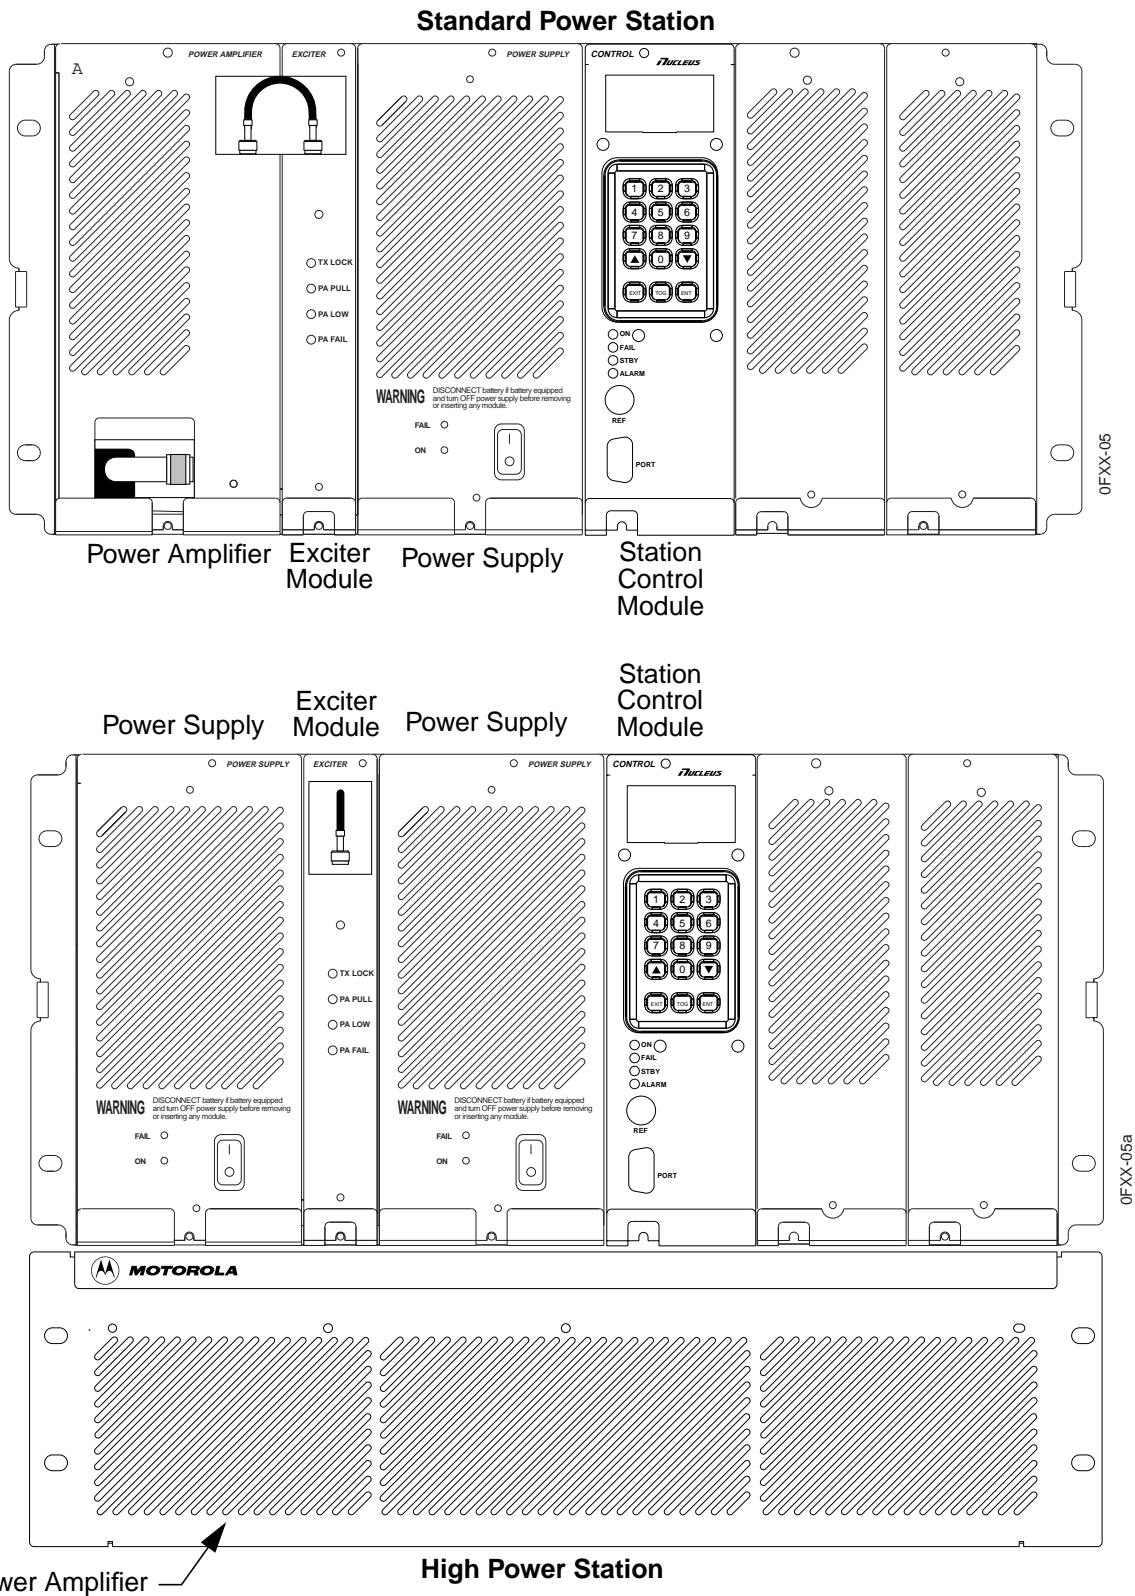
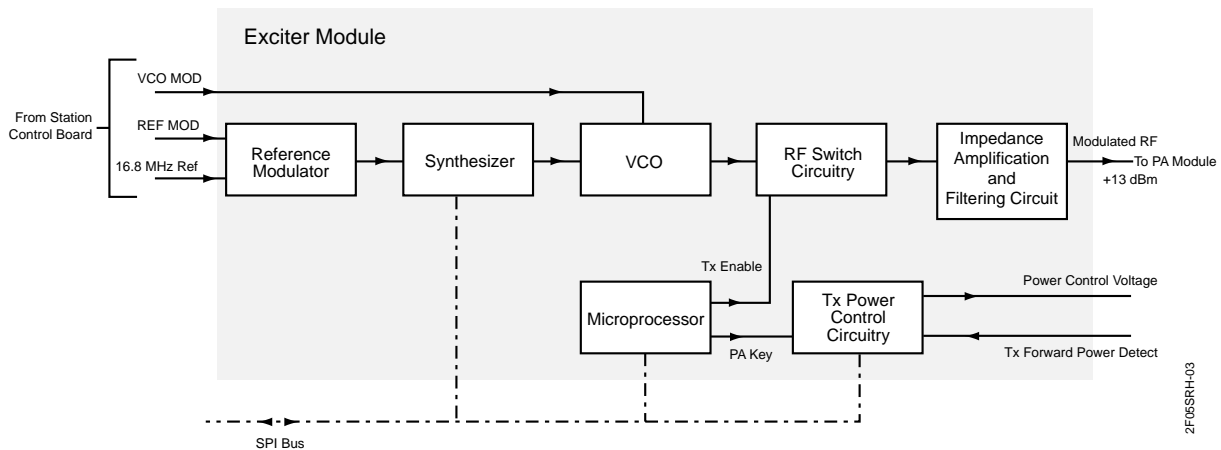
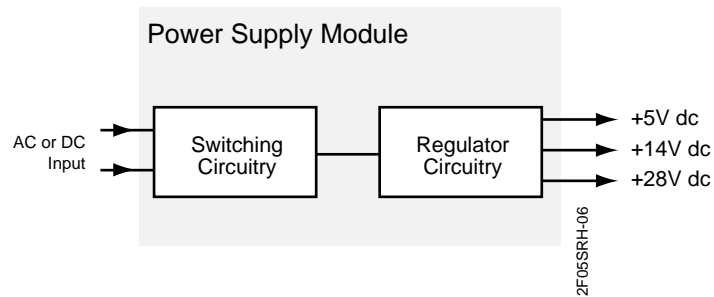

Figure 2-1: Nucleus Paging Station
Figure 2-5: Exciter Module Process Flow
Figure 2-8: Power Supply Module
A Nucleus paging station consists of the following elements (see Figure 2-1):
The Exciter (see Figure 2-1 for location) generates modulated RF messaging signals at the appropriate messaging frequency and sends the messaging signals to the PA. To do this, the Exciter mixes the messaging data with the carrier frequency (see Figure 2-5). The Exciter is frequency-specific for the transmitter.
- Standard power Nucleus paging station (100 to 125 W), (see Figure 2-1)
- High power Nucleus paging station (250 to 350 W), (see Figure 2-1)
The power supplies provide DC voltage for the station modules (see Figure 2-1). The high-power station has two power supply modules. Each power supply module uses the voltage available at the customer site. This voltage enters through a switching circuit that adjusts to the source. The regulator circuits creates three output voltages (see Figure 2-8):